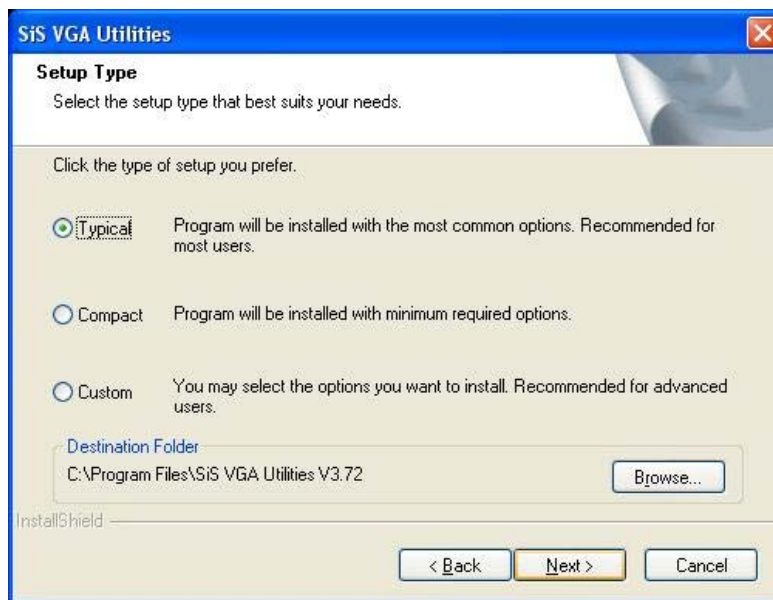

Figure 6-14: Select Setup Installation Type
Step 3: Select the setup type (**Figure 6-14**). Once the setup type is selected, click on the **NEXT** button in the setup type menu (**Figure 6-14**).